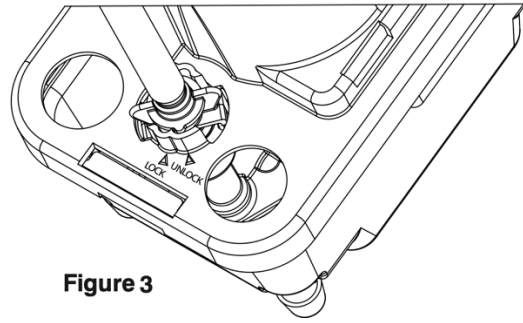

Figure 3
3. Insert the check valve into the pump discharge hole and twist it by hand 1/4 turn (Figure 3).